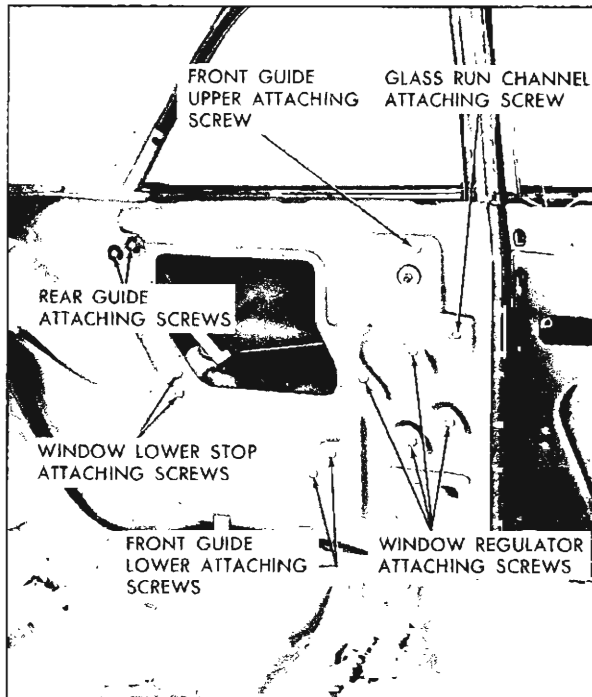

Fig. 63—Rear Quarter Hardware Attachment—1611 Styles—Electric
2. Remove access hole cover from inner panel. Loosen window front guide upper attaching screw. Remove window rear guide attaching screws and remove guide (fig. 63).
The upper front corner of the rear quarter window should seat properly in the front glass run channel through the complete window lowering and raising cycle. To accomplish this, loosen the front and rear guide attaching screws (fig. 63); then adjust the front guide forward and the rear guide upward and forward and retighten the attaching screws.
2. Remove rear quarter window glass run channel attaching screw (fig. 63). Carefully disengage glass run channel retainers from lock pillar and side roof rail and remove run channel.
3. Remove front guide upper and lower attaching screws (fig. 63). Disengage guide from roller on window lower sash channel; move front guide assembly rearward between panels sufficiently to allow upper end of guide to be started out through large access hole; then remove guide assembly.
3. Remove rear guide attaching screws (fig. 63).
2. Remove access hole cover from inner panel. Remove front guide upper attaching screw and glass run channel attaching screw (fig. 63).
4. Remove window regulator attaching screws (fig. 63), disengage regulator arm roller from window lower sash channel cam and remove regulator assembly through large access hole.